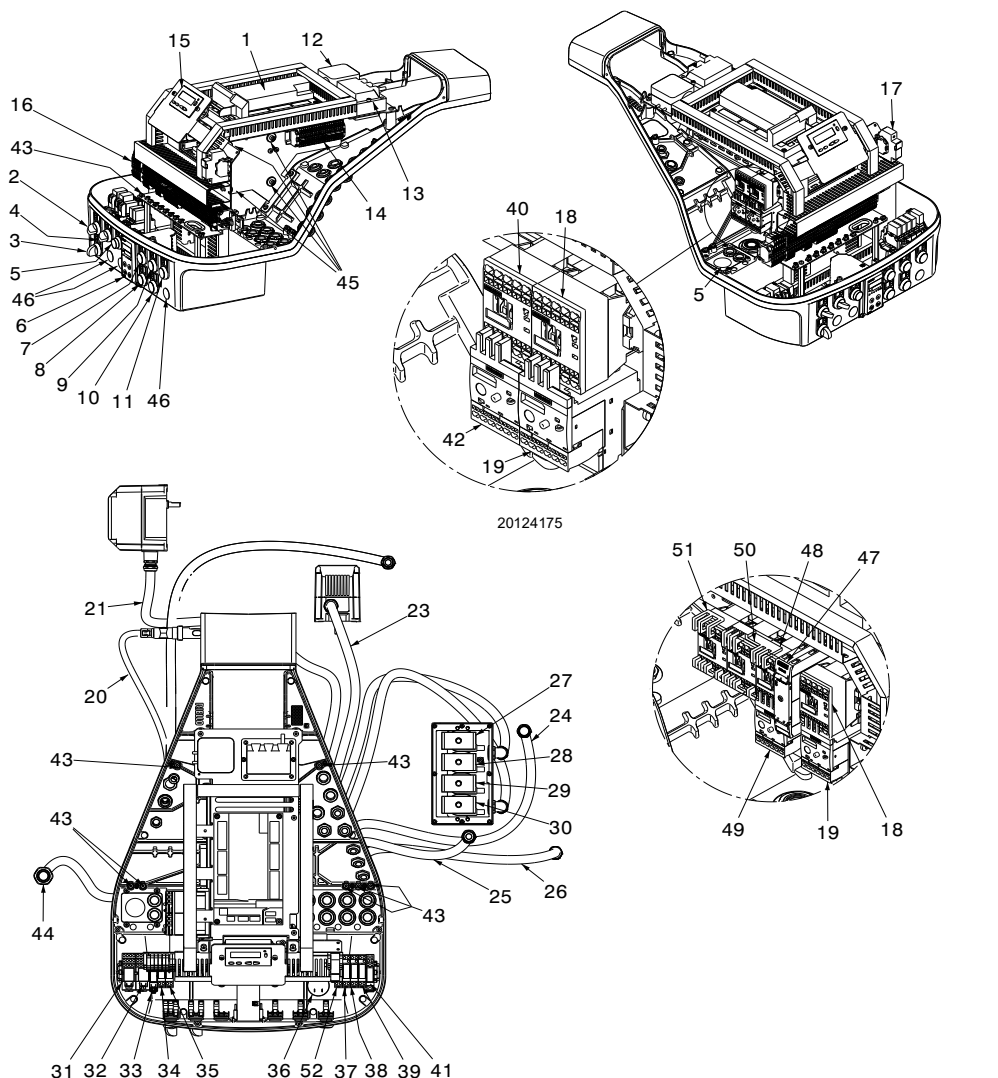

Fig. 4
- 26 Valve group (see Fig. 4 on page 12)
If the flame safeguard alarm 11)(Fig. 4 on page 12) lights up, it indicates that the burner is in lock-out. To reset, press the reset pushbutton.
release by pressing the push-button on thermal overload 19)(Fig. 4 on page 12). See "Thermal relay calibration" on page 34